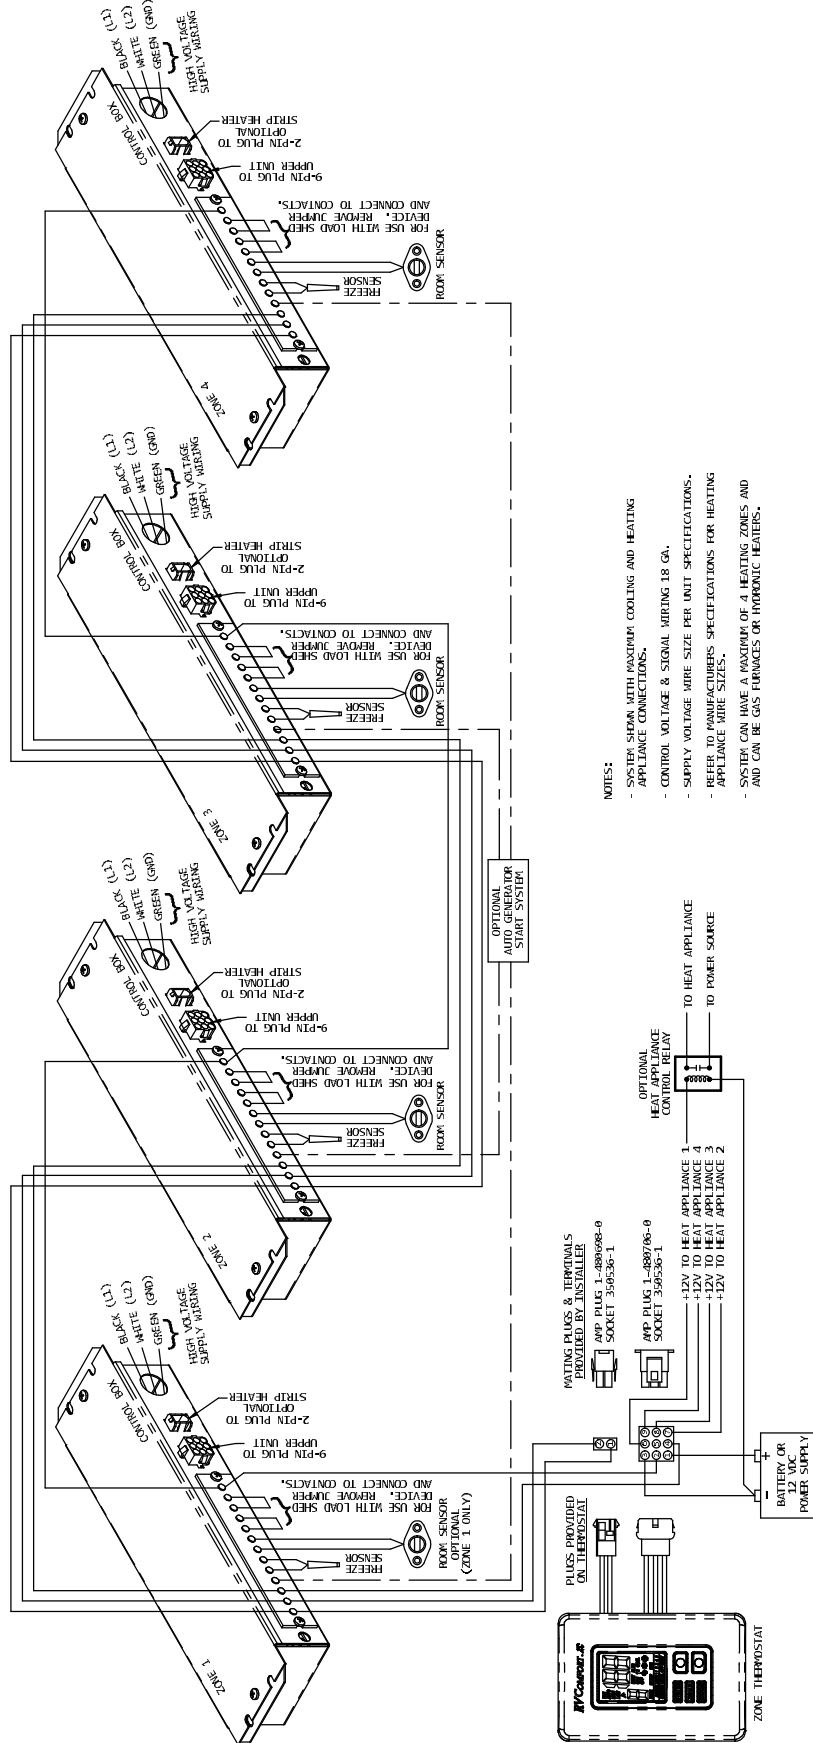

FIGURE 5
B. See Figure 5 for wiring requirements for multiple zones.
Zone 2 is wired in by jumpering from Sig 1, Sig 2, B- and R+ on Zone 1 box to Zone 2 box. Zone 3 is wired in by jumpering from Sig 1, Sig 2, B- and R+ on Zone 2 box to Zone 3 box. Zone 4 is wired in by jumpering from Sig 1, Sig 2, B- and R+ on Zone 3 box to Zone 4 box (See Figure 5).